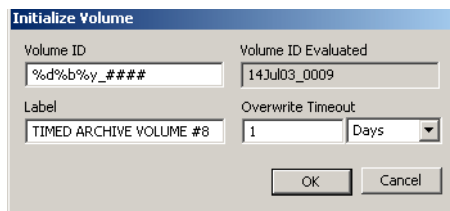

Figure 70. Initialize Archive Media Window
6. Whether the archive volume aspect or the archive device aspect is being used, invoking the Initialize command displays the Initialize Volume dialog as shown in Figure 70.